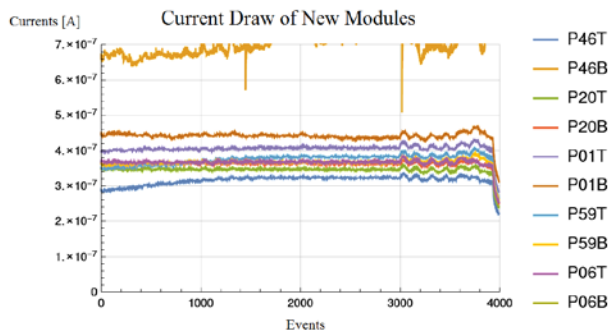
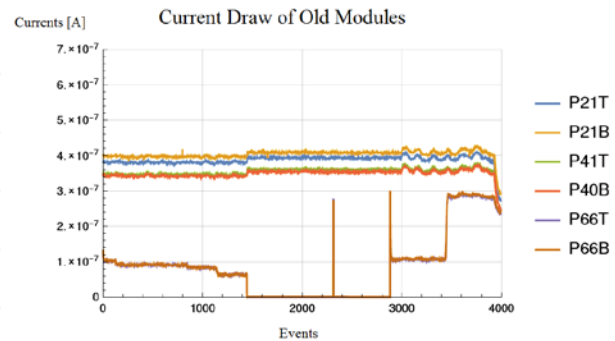

Fig. 2 Current draw of five new modules over four weeks.
Fig. 3 Current draw of three old modules over four weeks
- ★ Total current draws of five new modules (Fig. 2) and total current draws of three old modules (Fig. 3).
- Removed both graphs (DC and LTCC) and usage reduced to 30–40% (Fig.3); this graph still exists in individual detector PIDvi front panel for user viewing.